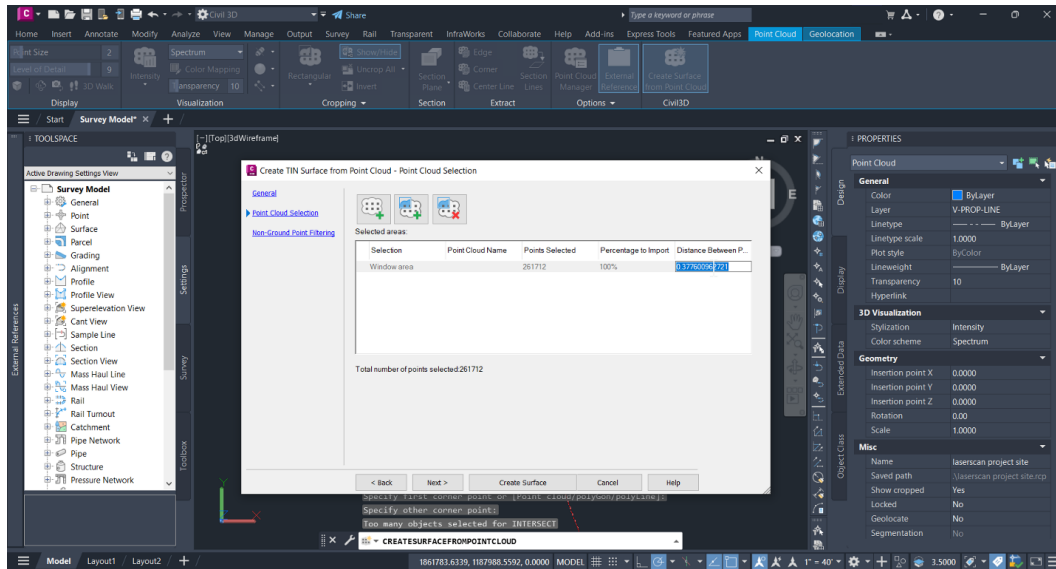

Figure 5.21 – Point cloud subsampling
13. Now that we have found our surface extents, we need to further chisel down what we want to create our surface from. We can do this by clicking on our only point cloud selection and then clicking on the **Distance Between Points** cell. It should be highlighted in blue, as seen in Figure 5.21. By default, it should show the current distance between points as **0.377**, which means the distance between points from the point cloud is 0.377 feet, which is around 4 inches. So, the surface would have calculated a triangulation every 4 inches to create the surface. This kind of accuracy and detail is not typical for traditional survey methods. So, we can experiment with this number and adjust it as we like to see how the subsampling affects our point count. Let’s adjust the number to 1.0, which would give us a point every 10 feet. So, click into the cell, type in 1.0, and then click out of it. Now, our total number of points should be around 54,000.